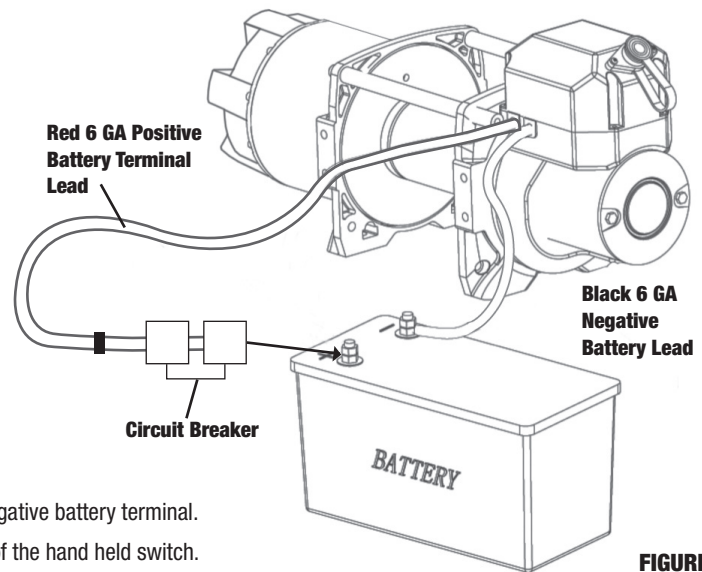

FIGURE 11
- Step 1** Follow electrical connection diagram (**FIGURE 11**). Bolt the circuit breaker to the terminal end of the Red 6 GA battery lead that is factory connected to the sealed solenoid switching pack. Now connect the circuit breaker to the positive battery terminal.